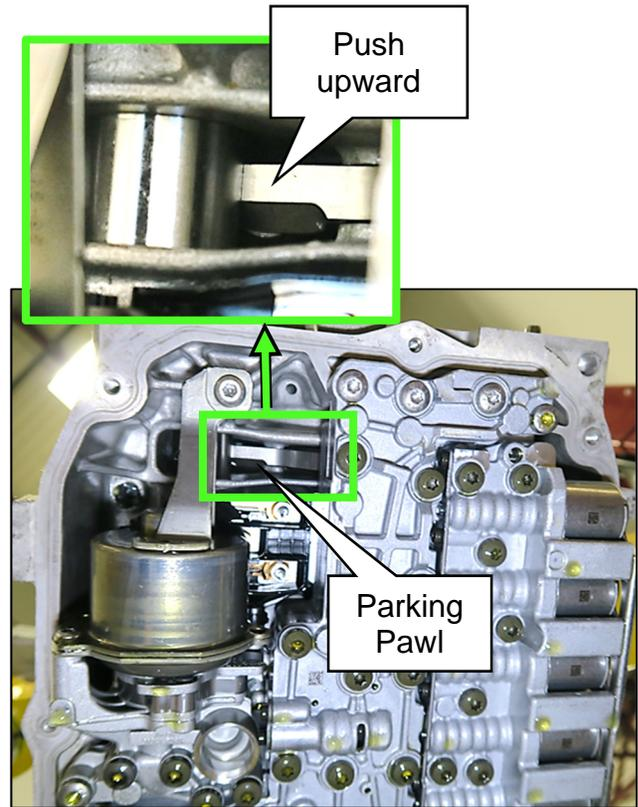

Figure 19
19. Push upward on the Parking Pawl at the location shown in Figure 19.